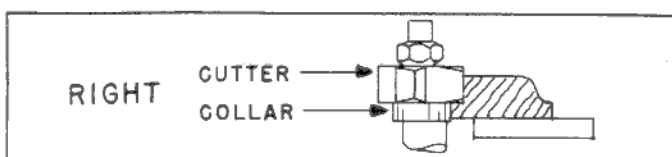
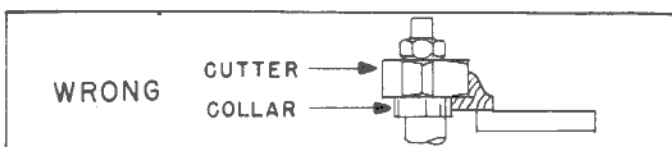

Fig. 29
Fig. 30
4. The work **MUST** be fairly heavy in proportion to the cut being made as shown in Fig. 29. Under **NO** circumstances should short work of light body be shaped against the collars as shown in Fig. 30.